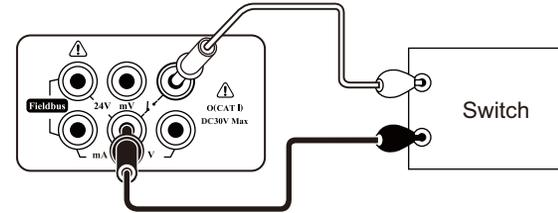

Fig. 3-7 Switch measurement
- 3.Connection: refer to Fig. 3-7.